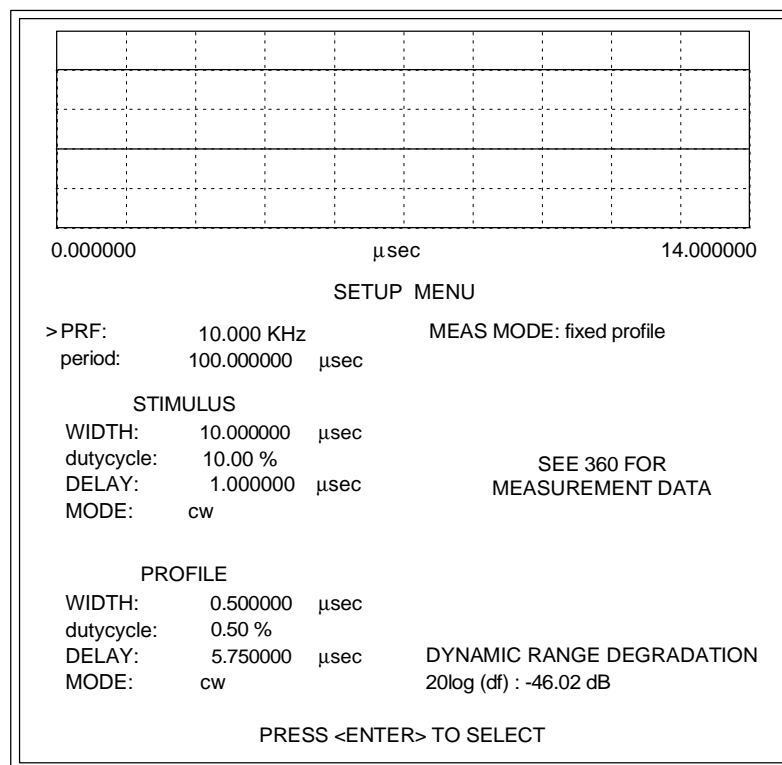

Figure 3-16. Setup Menu Display (CW Measurement)
To perform a CW measurement, you need to change settings in the Setup Menu (Figure 3-16) as follows:
During CW measurements, the Setup Menu shown in Figure 3-16 remains displayed on the computer/controller's monitor. You can exit the Setup Menu display in one of two ways; (1) press the ESC key to return to the previous menu, or (2) press the function key F2 to display the Main Menu.